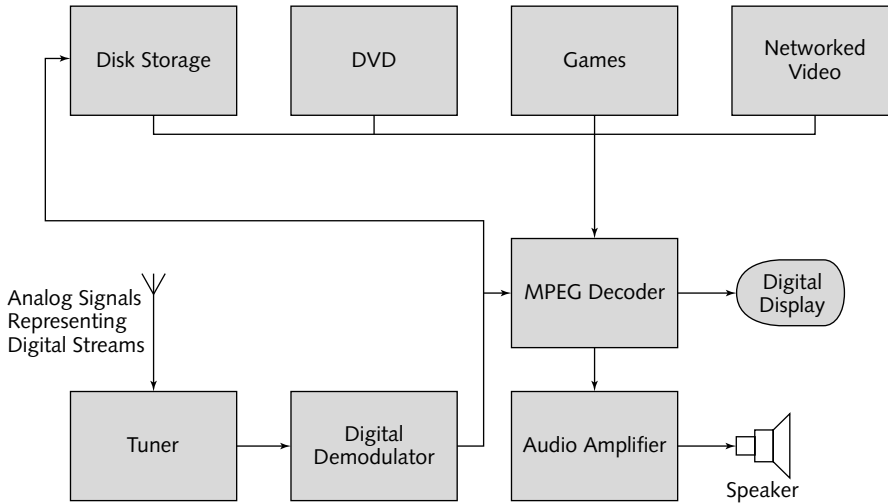
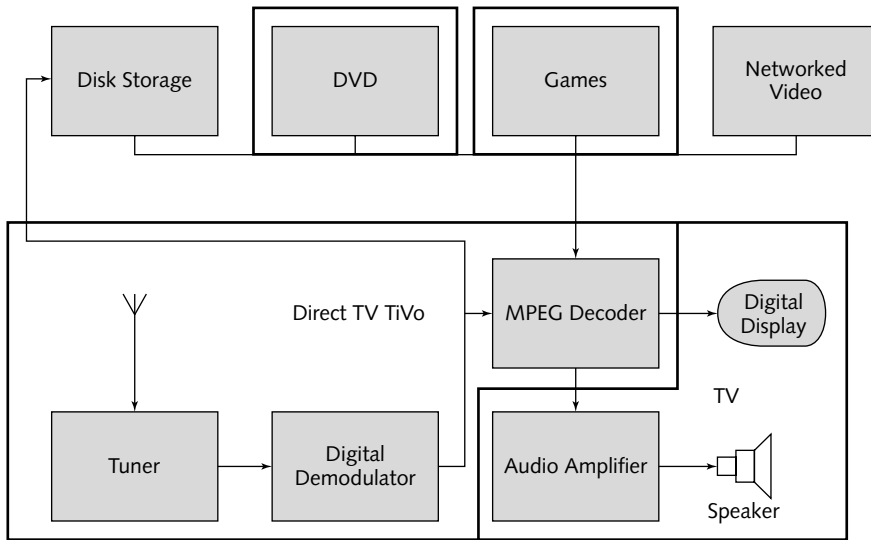
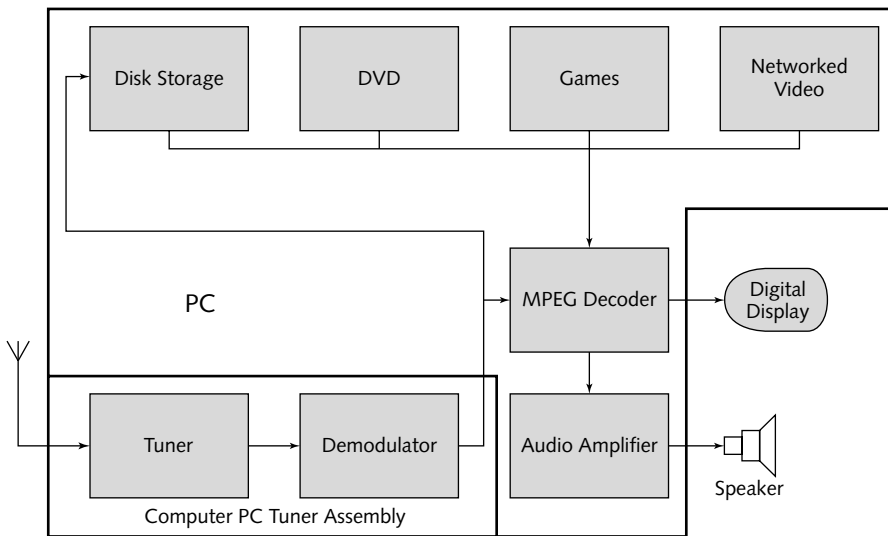

FIGURE 3-3: Extended digital television system
FIGURE 3-4: Digital television with consumer electronics
FIGURE 3-5: Digital television with a PC
For example, consider the extended digital television system of Figure 3-3. We've taken some minor liberties in the figure, such as that not all compression is MPEG, and that some digital video (such as from games) will be uncompressed. Don't let those simplifications make you
Depending on what components you're working with, Figure 3-3 could have many different realizations. Use a combination satellite receiver and digital video recorder (such as a DirecTV TiVo) with a television, and you get the setup in Figure 3-4, in which we've grouped functions into blocks representing available consumer electronic devices.
The most interesting aspects of Figure 3-4, though, are the disk storage and networked video functions, because there aren't common consumer electronics devices — other than PCs — for them. If we redraw Figure 3-4 to use a PC, and assign all the functions reasonably done by a PC that way, we get Figure 3-5. Yes, there's another simplification, in that you can use either amplified speakers or an external stereo or home theater amplifier, but again, that's not important. What's important in Figure 3-5 is that, with the exception of a tuner and demodulator, a PC can do everything the system requires. Build the tuner and demodulator into the PC in the form of an add-in card, and the PC does everything.
Returning to Figure 3-5, you can either put all the functions in a single PC or network multiple PCs together across a LAN and distribute the functions. The simplest realization of that idea is to split out the disk storage to a file server with huge drives, letting you share storage and recordings across several PCs and, therefore, several TVs. That approach requires running the coaxial cable to every PC serving as a television, though, which means you're installing single-purpose cabling and have to deal with the noise and losses radio frequency (RF) transmission over coax creates.